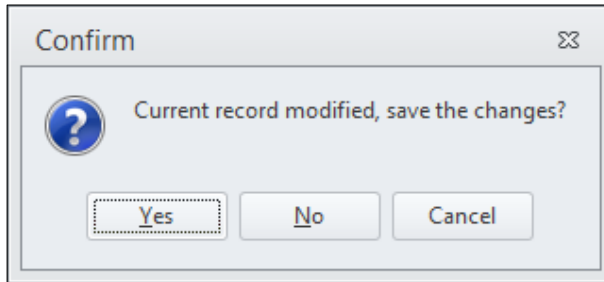

Figure 76 Toll bridges modification
- 3) To add a new toll, the user must know the start (A) and end (B) node for the link in the network. To visualize the network, open the Input_Data.mxd file, e.g., from the Data Section window. The A and B node numbers can be accessed e.g., by selecting the link with the Select Features tool and looking in the Feature Explorer window.
- 4) Close the Toll bridges table by clicking the “X” icon in the top right corner and click “Yes” to the question, see Figure 76.